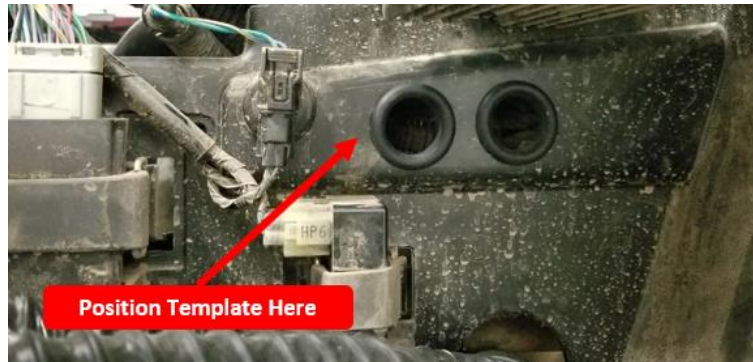
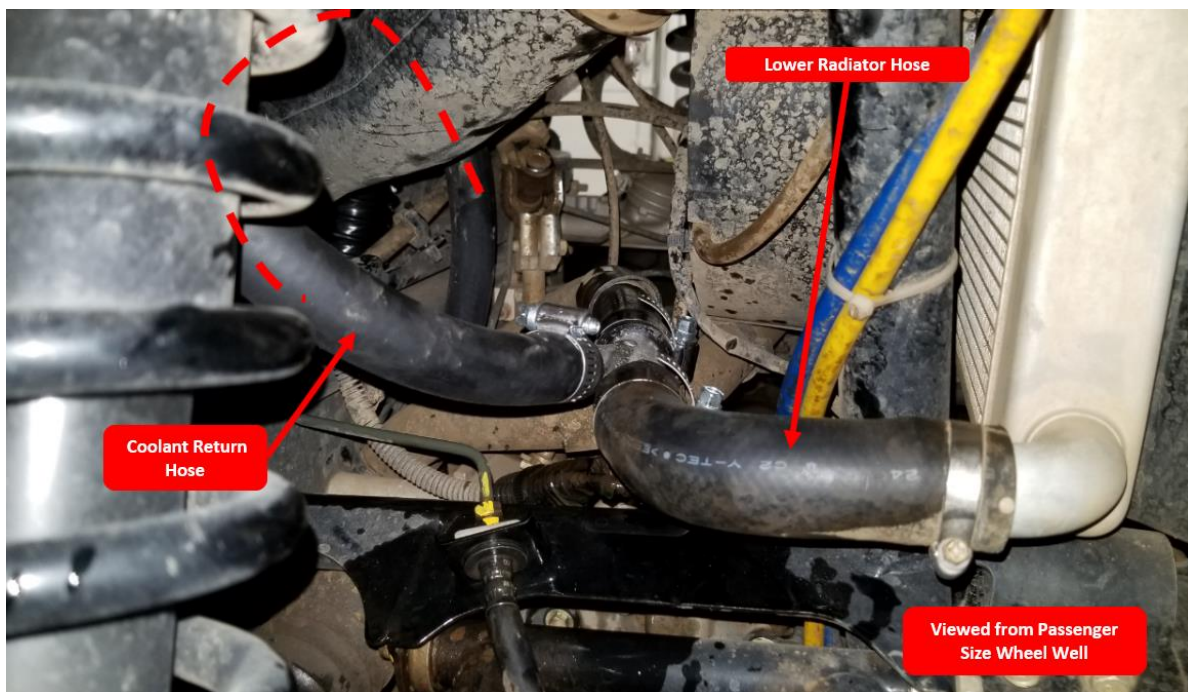

Figure 5
Figure 6
13. Cut out Template #2, and position it on the Plastic Panel just above the three 2" duct hose holes as shown in Figure 5. NOTE: Figure 5 shows two holes, a third hole is necessary but not shown below.
14. Route the 5/8" hose from the storage compartment, through the left hole (as shown in Figure 5) and to the engine compartment. Follow the same path as the 2" duct hose toward the front of the vehicle. It may be necessary to work from the bottom of the vehicle to move the hose to the correct location. Once the hose can be seen in the square access panel, direct it up and toward the radiator as it will need to make a 180 degree loop back toward the lower radiator hose as shown in Figure 6. Leave the hose hanging behind the radiator with a couple feet of excess material.
46. Place a drain pan directly below the bottom radiator hose. Identify the straight portion of the lower radiator hose and use a box cutter to cut the lower radiator hose. Figure 6 shows the finished state.
47. Insert a 1" Aluminum so that the Y portion is facing the radiator as shown in Figure 6.